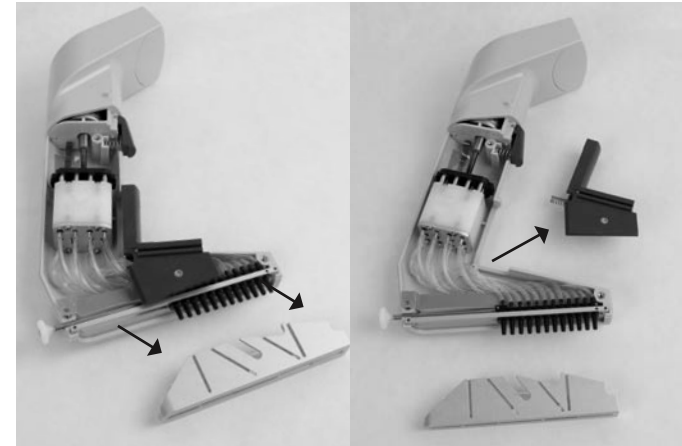

Figure F.1.1b: Removing Ejector Trigger and Ejector Comb
4. Remove the ejector comb by sliding it down and forward off the tip fittings with spring and slide the aluminum ejector comb off of the tip fittings (see Figure F.1.1b). Remove the plastic ejector trigger and spring. Next, remove the back plane divider.